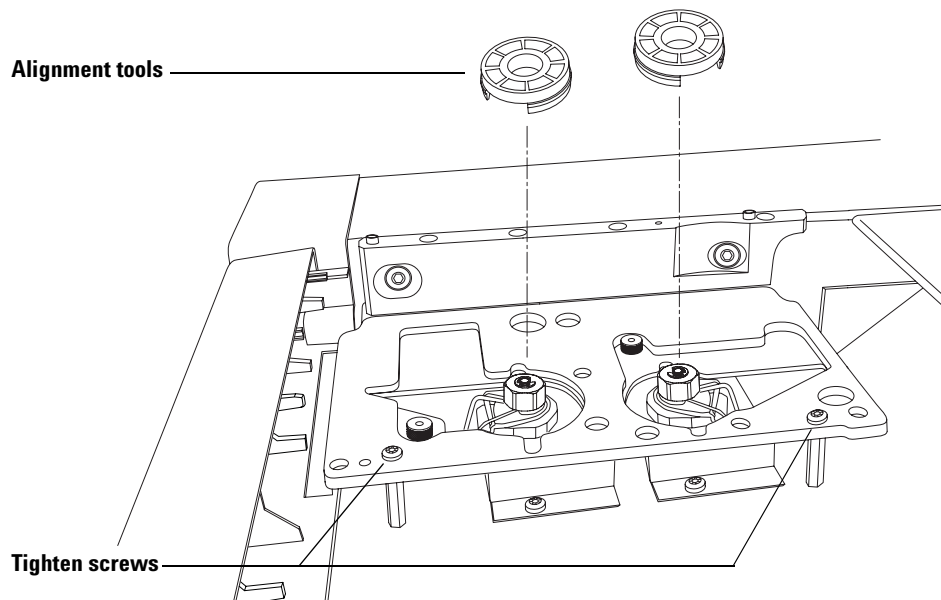

Figure 6 Aligning the injector bracket
- 7 Place the plastic alignment tool(s), honeycombed side up, over the GC inlet(s). See Figure 6. Move the bracket until both alignment tools fit flush on the bracket.